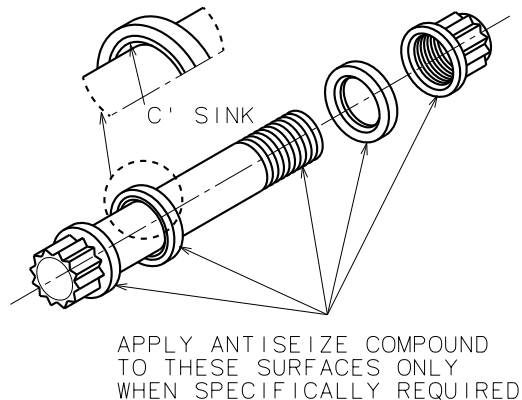

Figure 312 - Wheel Tie Bolts
NOTE: All Torque values listed on Cleveland Products are considered to be “DRY TORQUE” values unless “LUBTORK” is specified. “LUBTORK” requires the application of an antiseize compound conforming to MIL-T-5544 or MIL-T-83483 to all friction surfaces as shown in Figure 312. Only use the antiseize specified for your wheel assembly.
- 2 Install bolts through brake disc and wheel halves. Both plain and countersunk washers may be used. Some designs use bolts that have a radius between the head and shank, which requires the countersunk washers. Inspect bolts and washers prior to assembly. (Ref. Figure 312). Properly oriented washers with countersunk surfaces to sit flush against the bolt head. Install washers and nuts on bolts (bolt heads are to be on brake disc side of wheel). Torque nuts to value specified on wheel casting or nameplate, using a crisscross pattern until all nuts are properly torqued. Do not use power tools for the installation of nuts and bolts.